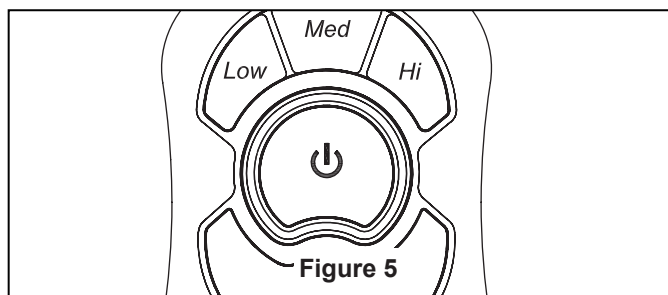

Figure 5
- ☐ 4. **IMPORTANT-** If driving two, three or four head assemblies with motor, make sure four-pin and two-pin connectors are connected in the motor assembly. (Figure 5)
- ☐ **5.** After installing the unit and restoring power to your fan, press and hold the “ button” 1~5 seconds, light will flash twice, which indicates that the learning process has completed. (Figure 5)